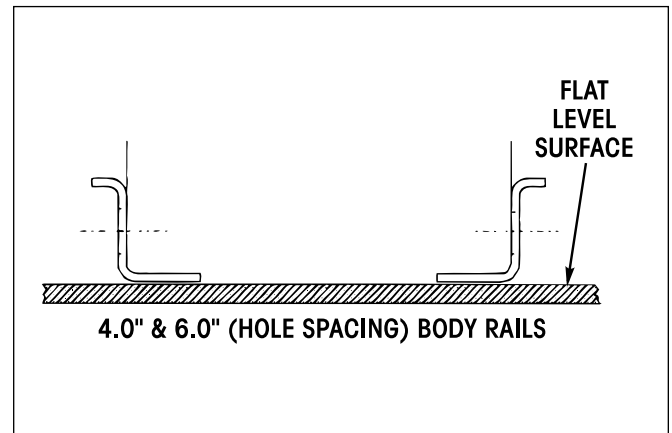

Figure 29. Slider body rail positions
1. Place both slider body rails face down (large flange pointing down) on a flat level surface, spaced apart at the approximate width of the slider box (Figure 29). It is important that the surface be level to avoid the possibility of unparallel (both horizontally and vertically) body rails.